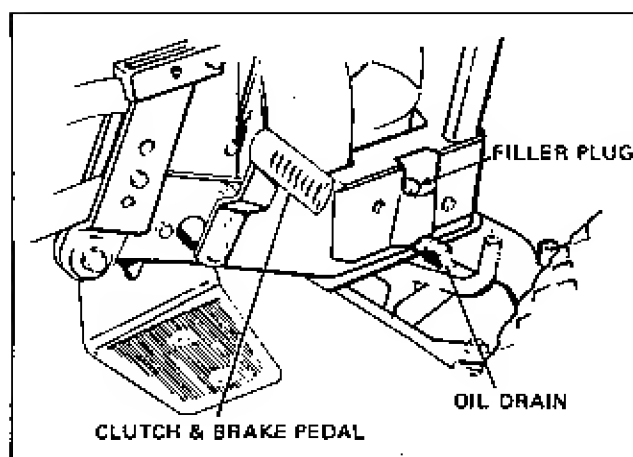

Figure 11
Service air cleaner and crankcase as recommended in Engine Service Manual. Be sure air cleaner is maintained in clean condition. Never use oil in crankcase for more than 25 hours of operation. See Figure 11. **CLEAN AIR AND CLEAN ENGINE OIL WILL GIVE LONG TROUBLE FREE OPERATION. DIRT WILL RUIN YOUR ENGINE IN A**
3. Depress the clutch and brake pedal as far as it will go. See Figure 11.